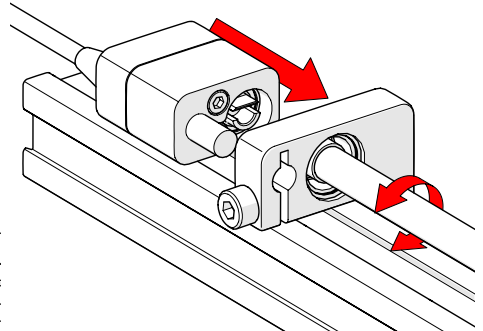

Fig. 69 - Align and mount post
2. Insert the encoder post in the index encoder support bracket while aligning the leadscrew shaft with the encoder socket (Fig. 69).